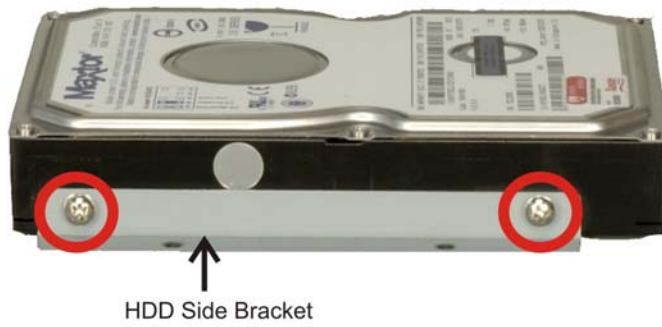

Figure 4-10: PPC-3712 HDD Bracket Retention Screws
Step 3: Attach the HDD brackets to the HDD. To do this, align the two retention screw holes in each HDD bracket with the retention screw holes on the side of the HDD. Insert two retention screws into both brackets on both sides of the HDD (**Figure 4-10**).